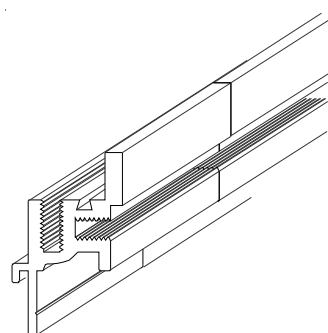

Figure 9
STEP 3. Abut the mating sections of the frame together as tightly as possible (see Figure 9). Ensure